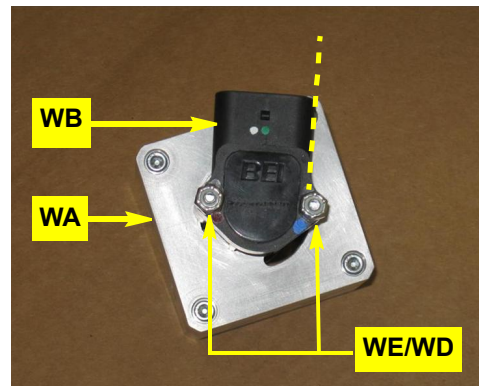

Figure 1a: Prepared WAS housing/connector
- a. Using hardware **WE** (nuts) and **WD** (bolts - not visible), attach the WAS wire connector **WB** to the WAS housing **WA**. Install the bolts up through the bottom of the housing. Align the right edge of **WB** with the center of a corner of **WA** (Figure 1a).